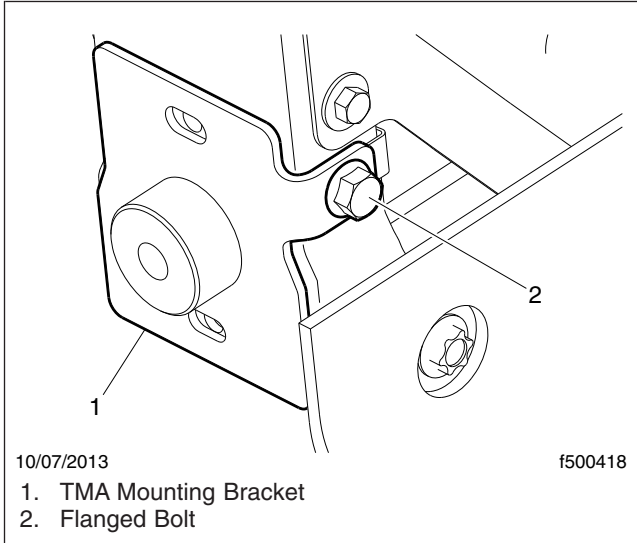

Fig. 6, Positioning the TMA Mounting Bracket
9. Position the TMA mounting bracket and start a M8 flange bolt into the U-nut as shown in Fig. 6. Do not tighten at this time.